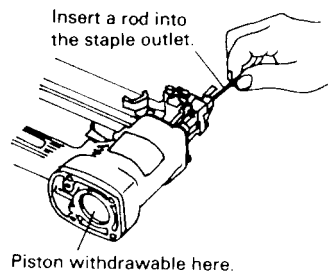

Fig. 10
- Insert an appropriate rod into the staple outlet to withdraw the piston from the opposite side. (See Fig. 10)
(2) Grinding procedures